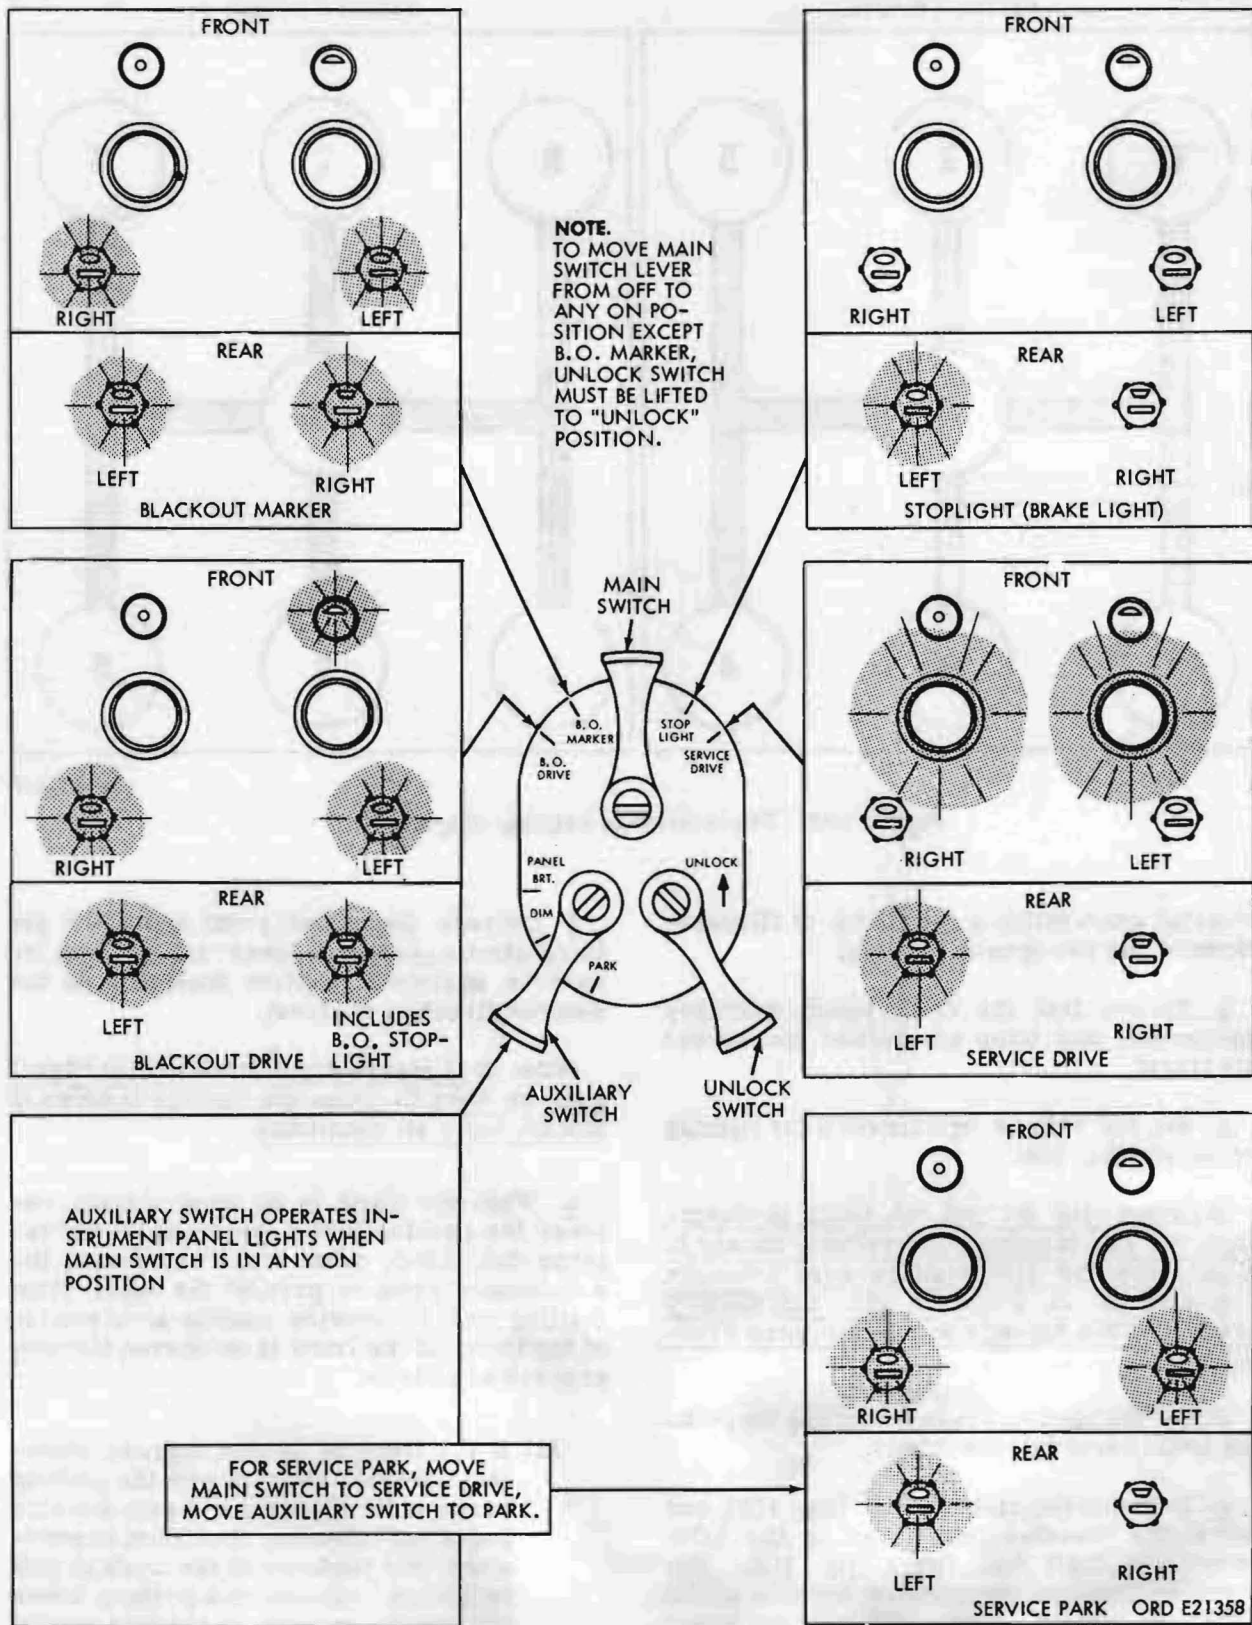

Figure 104. Vehicle lights chart
c. Set the vehicle lights switch for lighting required (Fig. 104).